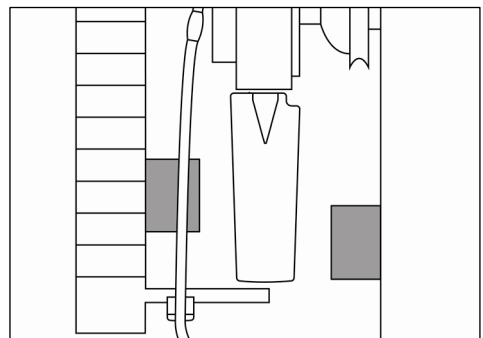

Fig. 35
- 30) Make sure that when the blades are in the cross position, they do not collide with any objects in front of or behind the fan (minimum gap 5 mm (0.196") / see Fig. 35).